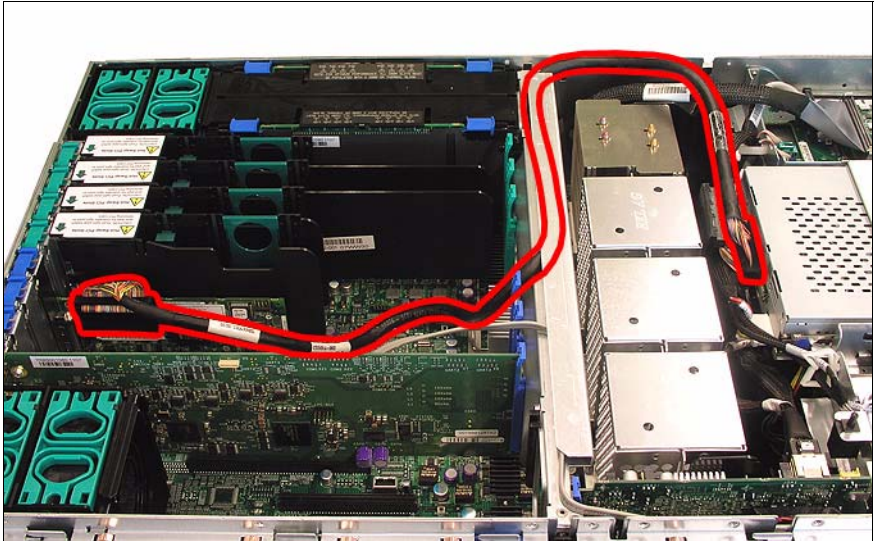

Figure 24: Cable routing from the tape to the PCI controller
- ▶ Route the data cable as shown in figure 24.